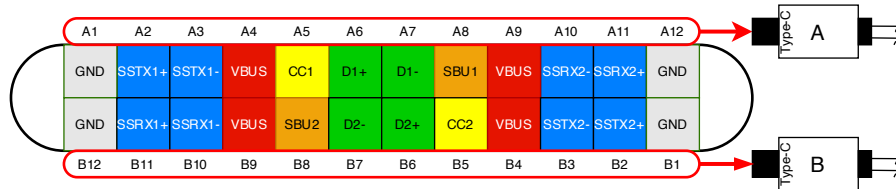

Figure 16: USB-C Connector Detail
- Figure 16 illustrates which CC line is used for Power Delivery negotiation in subsequent application notes and diagrams that specify orientation. For example, diagrams showing connectors with "A" use CC1 for PD communication.